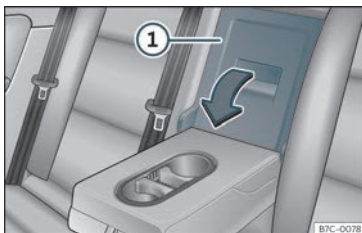

Fig. 120 In the rear seat backrest: opening the trapdoor.
- Pull the release lever in the direction of the arrow and push the tailboard cover >>> **Fig. 120** ⓘ down and forwards.